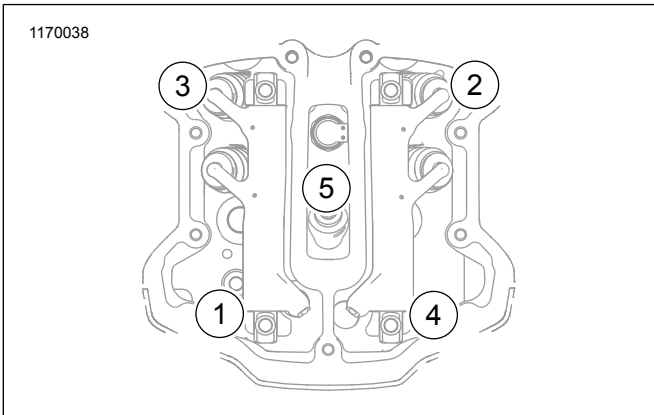

Figure 6. Lower Rocker Cover Torque Sequence
4. See Figure 6. Install screws (3) and stud (4). Tighten in sequence shown.